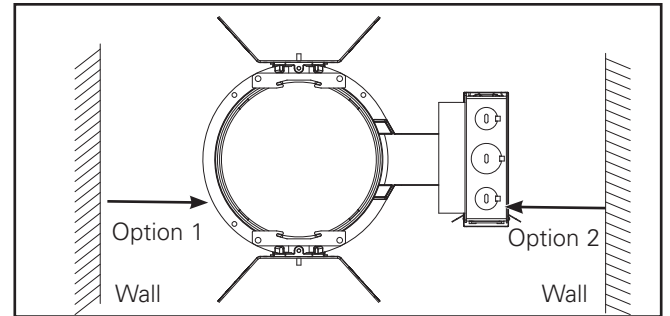

Figure 10
1. For wall wash option install frame with junction box toward wall. (Figure 10.)